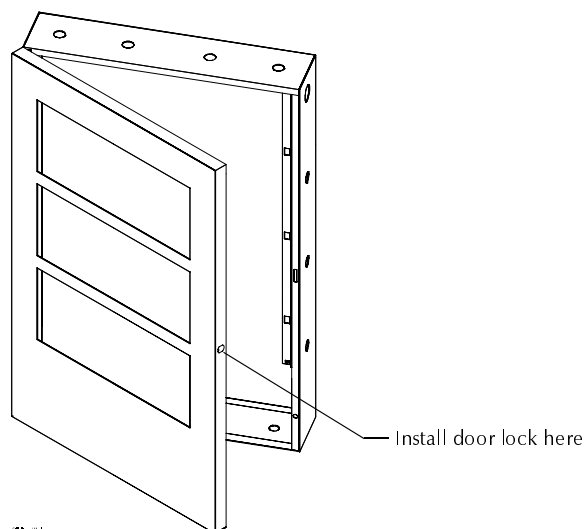

Figure 2-5 Installing the Door Lock
3. Install the lock mechanism (Figure 2-5).
Installing a Door Lock. Figure 2-5 shows how to install a door lock: